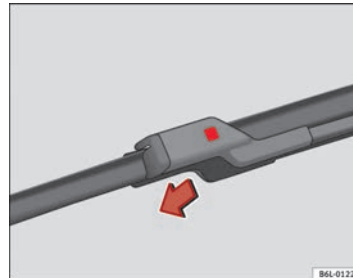

Fig. 129 Change windscreen wiper blade
- Press on the securing tab ⇒ Fig. 129.